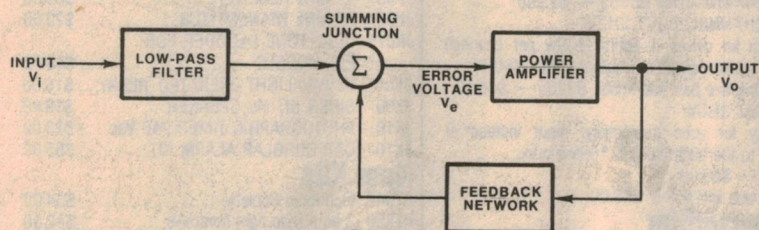

FIG. 1
Let us recap on how TIM is produced. Fig. 1 shows a typical feedback amplifier system. It consists of a low pass filter at the input placed there simply as recognition of the fact that any real life program material that is fed into the feedback amplifier is of limited bandwidth. The cut-off frequency of the input filter is at a frequency designated as $F(1)$. Following this input filter is the feedback power amplifier. It is represented by the power amplifier block in the forward path with a feedback network from the output to the input summing junction. The feedback amplifier has an open loop cut-off frequency at $F(0)$ and it is assumed that the rate of roll-off is first-order, ie, 6dB/octave. Assume also for the moment that the input filter is also first-order.
Finnish amplifier designer, Matti Otala (1) has performed a detailed investigation of the error voltage, V_e , for various combinations of the ratio $F(1)$ to $F(0)$ and feedback factor for the system of Fig. 1. His conclusion was that increasing overall feedback made TIM worse. Furthermore, Otala stated that, to obviate the production of TIM an amplifier should be designed for a wide open-loop bandwidth and overall feedback should virtually be kept to a minimum.